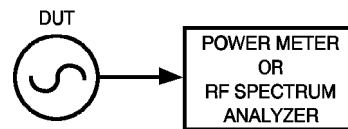

Figure 12-15 Measuring Power at the AM Detector
- 2 Measure the power which will be applied to the AM detector (Figure 12-15). It must be between 0 and +23 dBm.